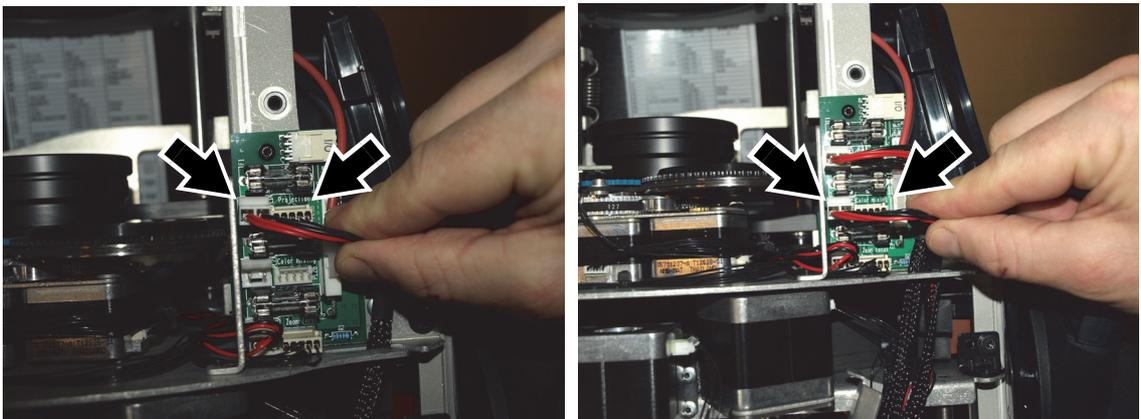

Figure 20: Connecting the IBD module
9. See Figure 20. Connect the IBD module to the **Projection** connectors and reconnect the color mixing module to the **Color mixing** connectors on the PCB on the right-hand side of the head.